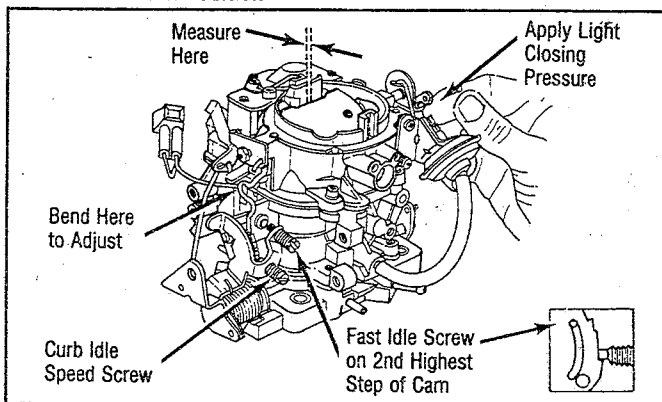

Fig. 7 Fast Idle Cam Position Adjustment
- Place fast idle speed screw on second highest step of fast idle cam. See Fig. 7.
- Ground idle stop switch (if equipped) with a jumper wire. Remove PCV valve and allow it to draw air. Set idle RPM as shown on engine compartment Emission Control Tune-Up Decal by adjusting curb idle speed screw. See Fig. 7.
- Place fast idle speed screw on second highest step of fast idle cam. Open choke fully. Set fast idle RPM as shown on engine compartment Emission Control Tune-Up Decal by turning fast idle speed screw. See Fig. 7.